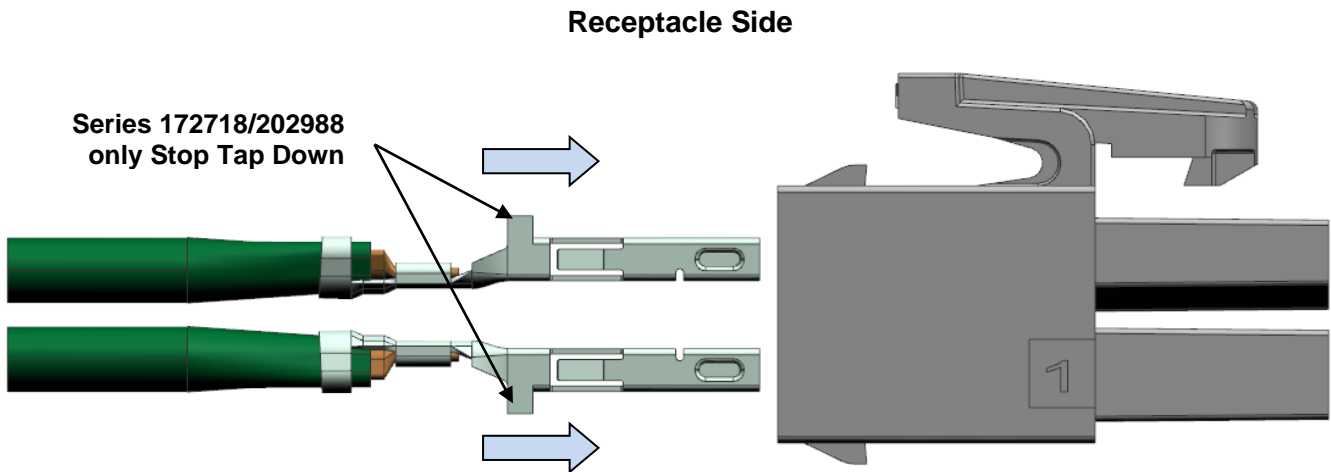
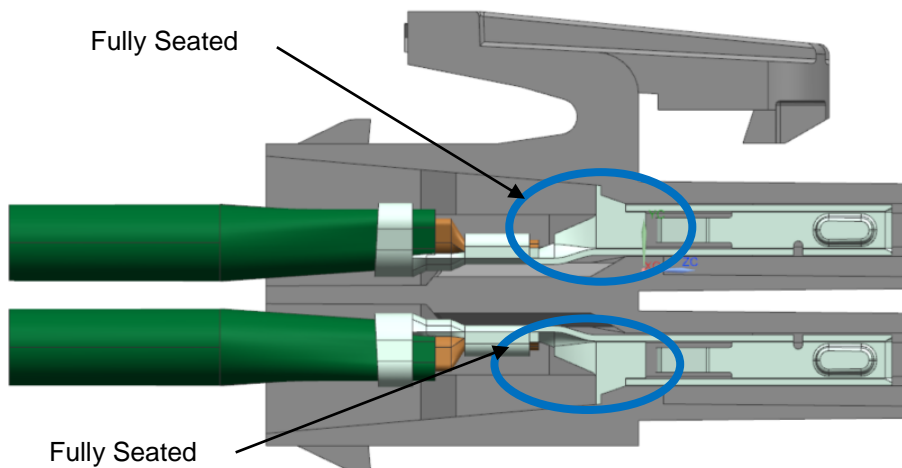

Figure 1
Figure 2
9.1 Terminals are to be inserted in the housing as shown below in Figure 1 and 3. Notice the orientation of the stop tabs. Do not force terminals into the housing cavity. The terminal and housing are designed with features that provide some light resistance during insertion as well as retention after insertion but if excessive resistance is felt during insertion pull terminal back out and double check that the terminal orientation is per Figure 1 and 3. Terminals are to be inserted until they are fully seated as shown in Figure 2 and 4 and cannot fall out or be pulled out easily. The terminal stop tabs provide a stopping surface and the locking tangs provide a light audible click to indicate a fully inserted terminal.